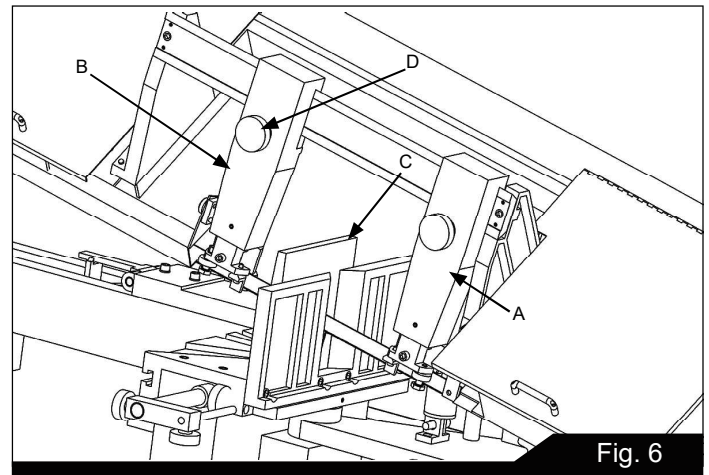

Fig. 6
The blade guides should be set as close to the vise jaw as possible. The right blade guide bracket (A) Fig. 6, is not adjustable and is set at the factory to clear the right hand vise jaw. The left blade guide bracket (B) can be moved to the left or right depending on the position of the left hand vise jaw (C).